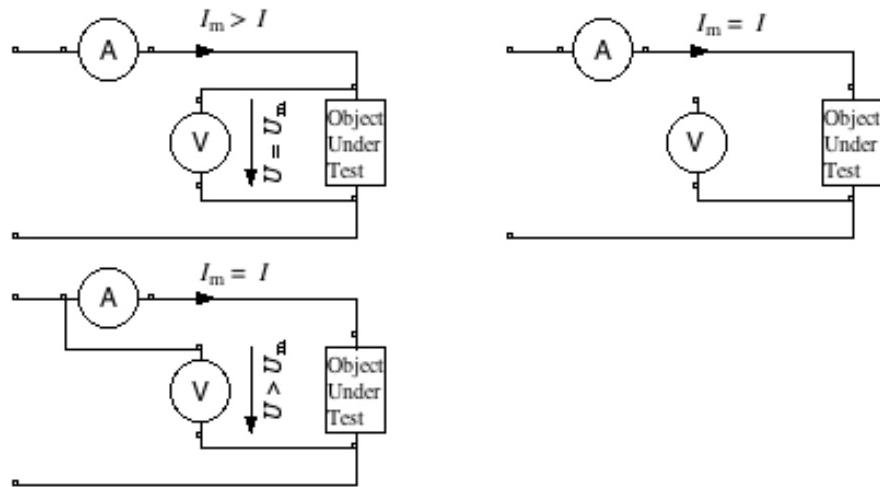

Figure 6.3.: Test for Systematical Error caused by Voltmeter and Countermeasure
- In order to find out the influence of the measuring current of a voltmeter it is best to disconnect the instrument and to observe possible changes in the current measured by the ampere meter (see figure 6.3 on page 29 for illustration). A noticeable change would suggest not to connect the voltmeter directly to the object under test, but over the ampere meter and the object connected in series.